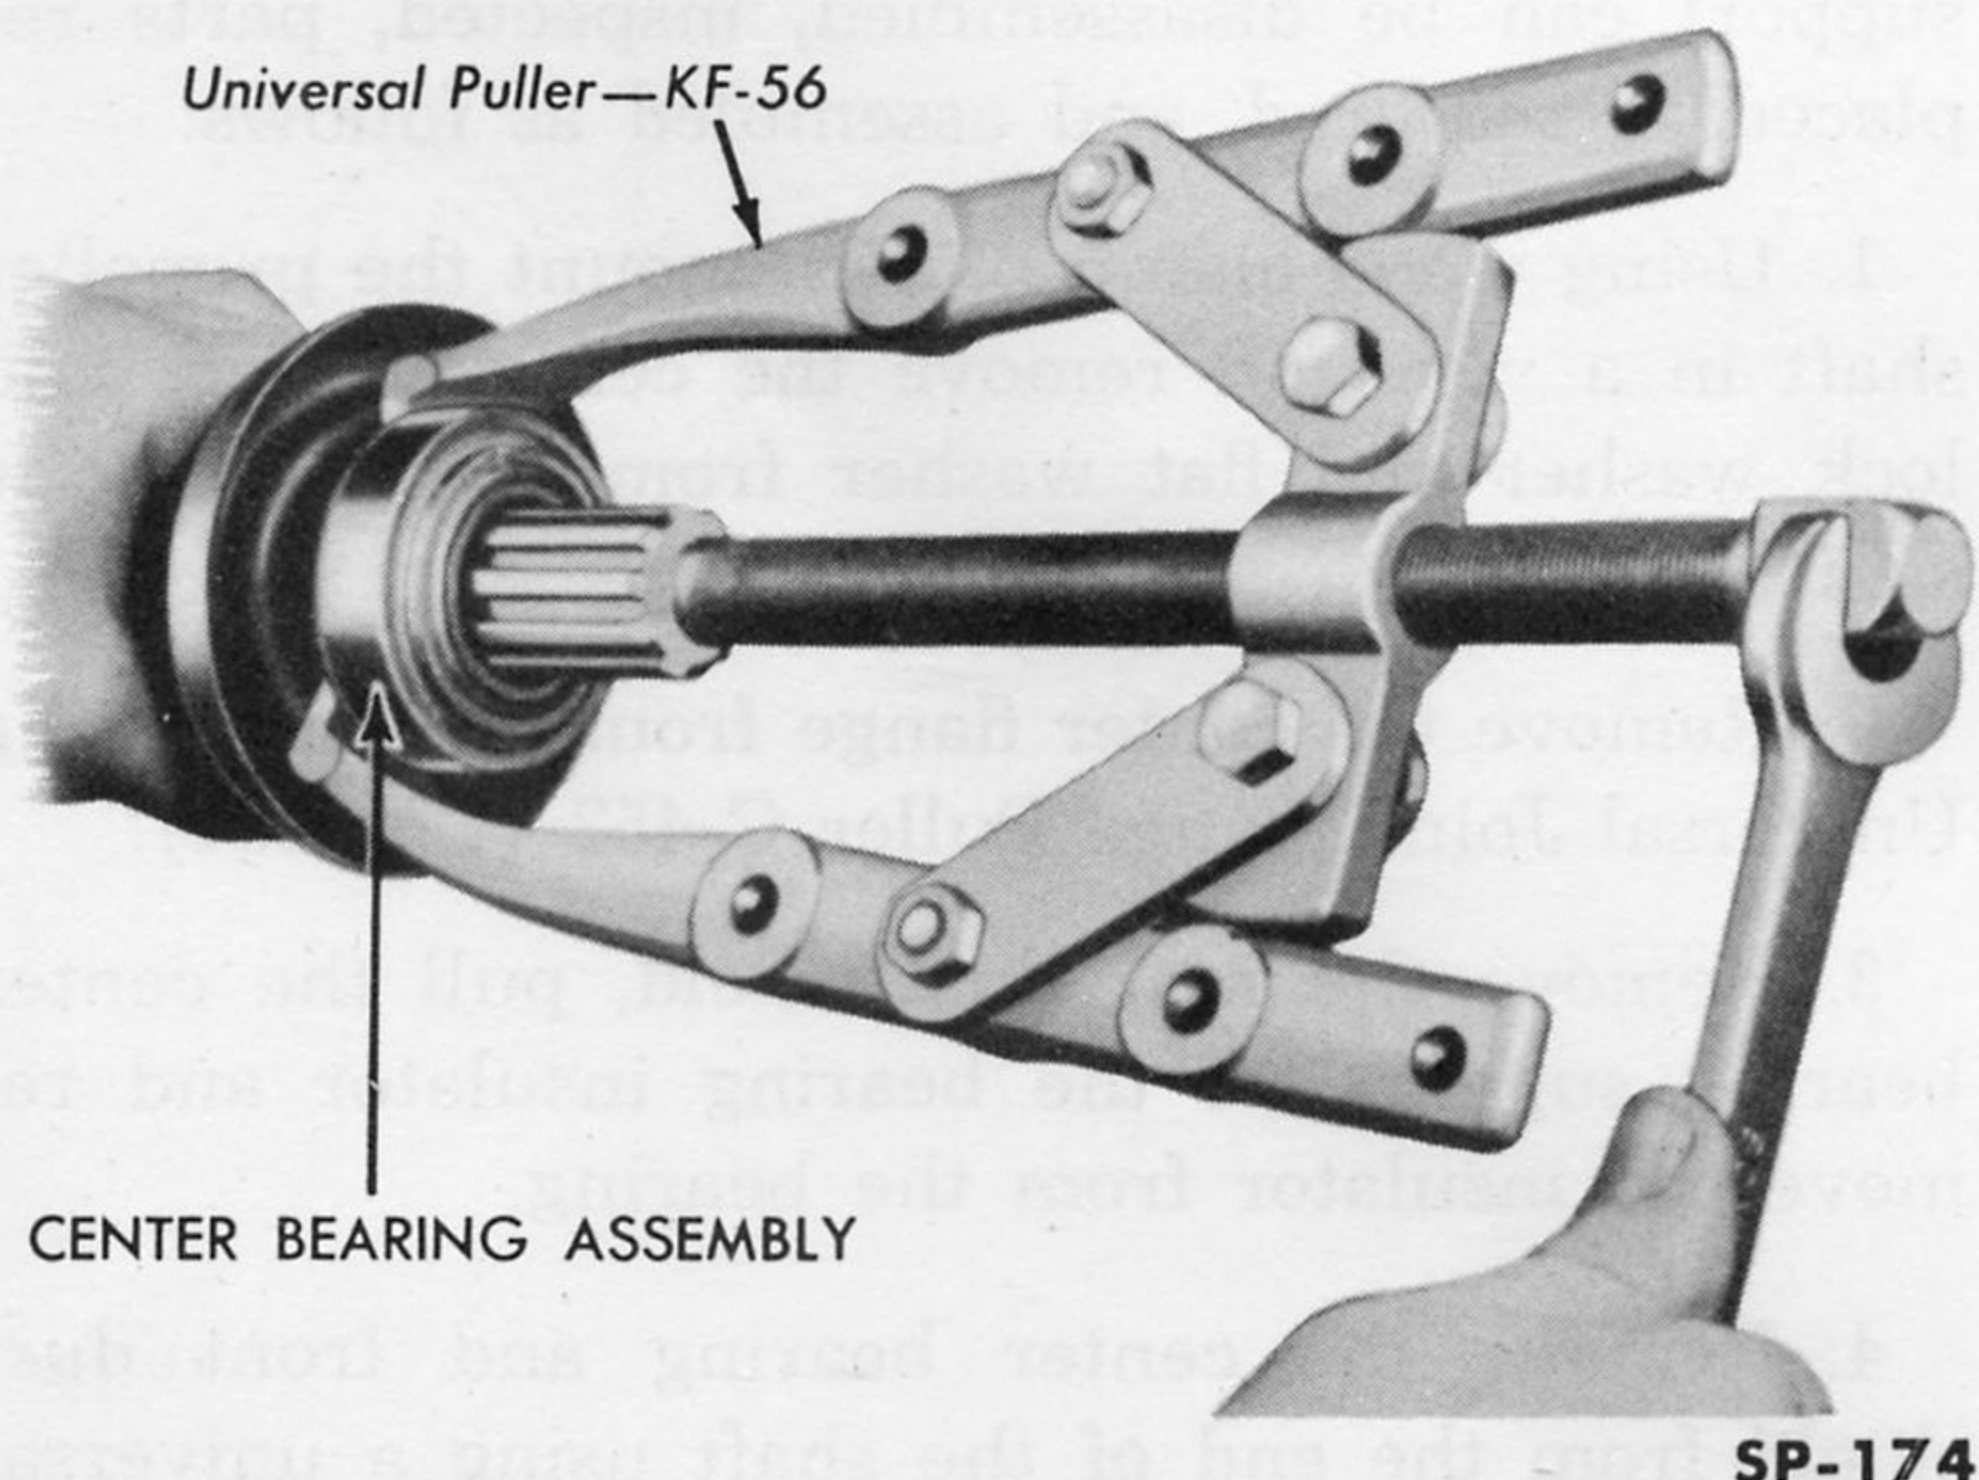

Fig. 235—Removing Center Bearing
4. Remove the center bearing and front dust shield from the end of the shaft using a universal puller (Fig. 235).